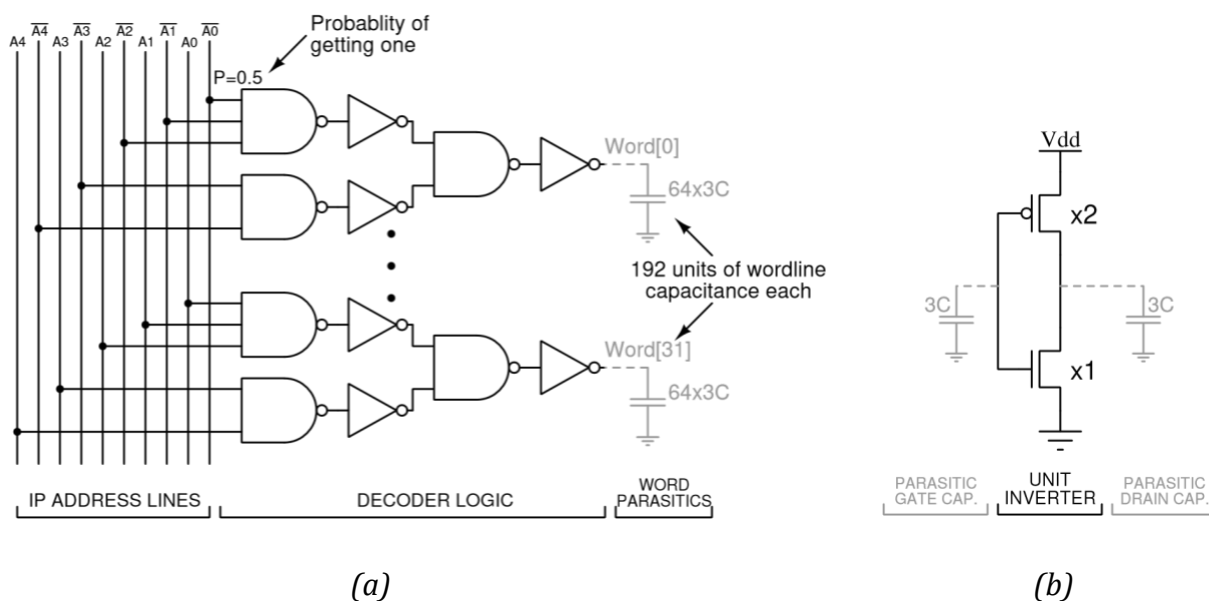

Figure 1. (a) An example of a 4-stage decoder architecture. (b) A unit-size inverter definition.
Consider a row decoder used to select one word within a 32-word register file, where each word is 64 bits wide. An example of such a decoder, for the case when it uses 4 stages of static CMOS logic to drive each word line, is shown in Fig. 1(a) (IP stands for 'Input').
- Assume a unit-size inverter is defined as shown in Fig. 1 (b).
- Each input address line can drive up to 20 unit-size inverters¹ (as shown in Fig. 1 (b))
- Each register bit adds a load of three unit-size transistors to the word line, as shown in Fig. 1(a) (accounting for two unit-size access transistors plus some wire capacitance)